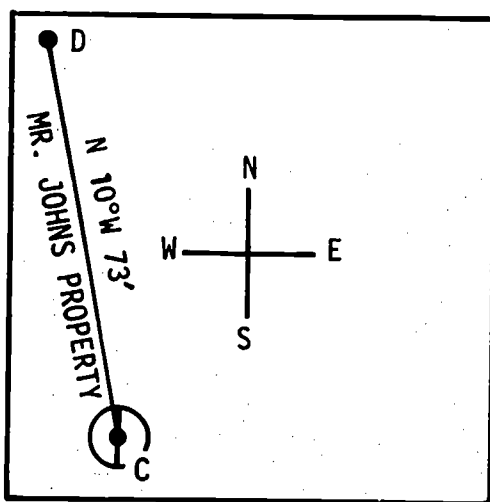

Fig. 7-8. Locating Point D
12. Place the direction circle over Point C, and measure 73' N 10° W along the east property line of Mr. Johns. Drive a nail at this point (Point D). See Fig. 7-8.